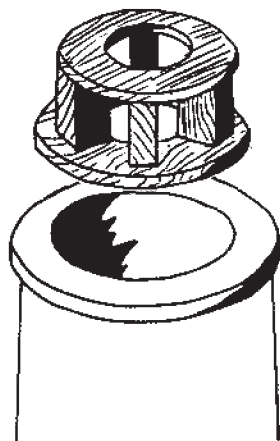

FIGURE 6-5
1. Center plug on shaft top with the small end up (Fig. 6-5). Attach to top of shaft with screws. Caulk between plug and shaft before attachment. (Predrilling of holes should not be required.)
1. Caulk top of shaft before attaching plug. Center plug on shaft top with the small end up (Fig. 6-5). Attach to top of shaft with screws.